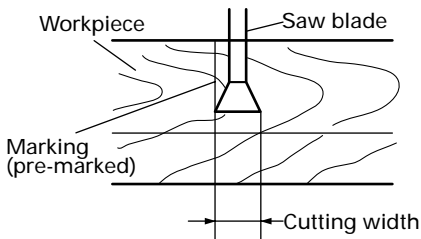

Fig. 18
- (1) Light up the laser marker and make a groove of about 3/16" (5mm) deep on the workpiece that is about 1-1/2" (38mm) in height and 3-1/2" (89mm) in width. Hold the grooved workpiece by vise as it is and do not move it. (Fig. 18)